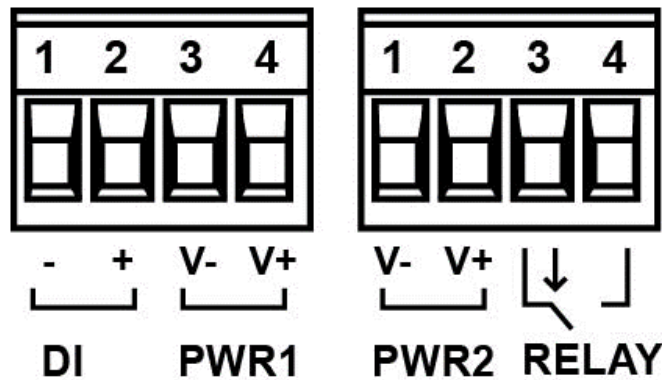

Figure 2.9: Power Terminal Block
Step 1 Insert the positive and negative wires into the PWR1 (V1+, V1-) and PWR2 (V2+, V2-) contacts on the terminal block connector as shown below in Figure 2.9.